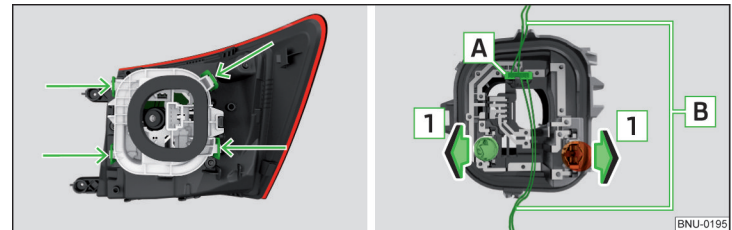

Fig. 354 Outer part of the lamp/holder with bulbs
- Unlock the bulb holder at the areas marked with arrows » Fig. 354 and remove from the light.
- Before inserting the bulb holder into the light, check that the connector **A** » Fig. 354 is fitted correctly between the light and the bulb holder.